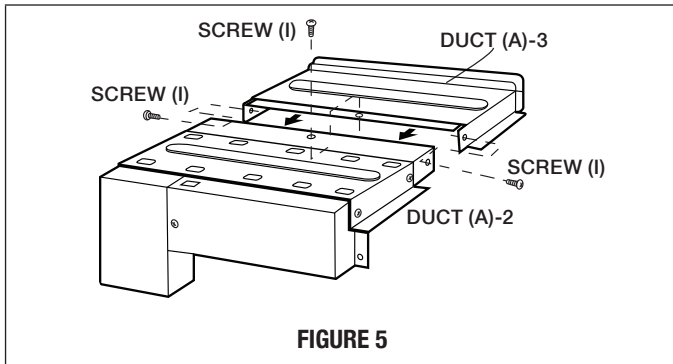

FIGURE 5
D. Position DUCT (A)-3 on top of the oven and insert it into DUCT (A)-2. Secure DUCT (A)-3 using 3 SCREWS (I) provided. See Figure 5.
C. Position DUCT (A)-2 on the top of the oven and insert it into the hold lip of DUCT (A)-1. Secure DUCT (A)-2 to DUCT (A)-1 using 2 SCREWS (I) provided. See Figure 5.